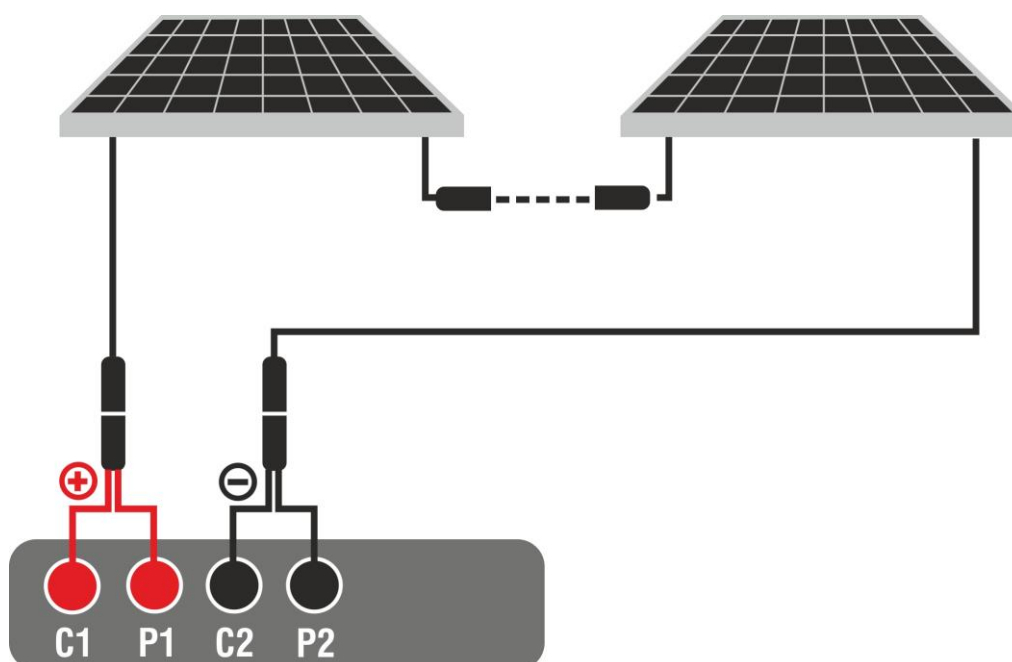

Fig. 13: Instrument connection for DMM Function
2. Connect the instrument to the PV string being tested as shown below Fig. 13